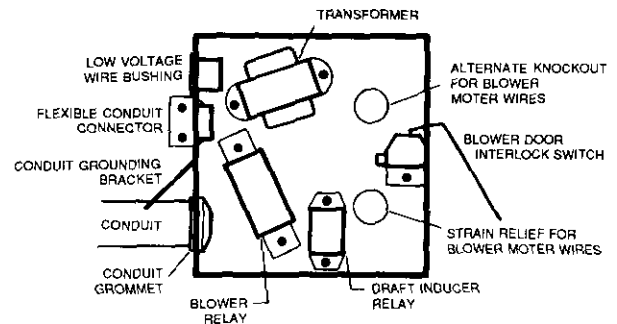
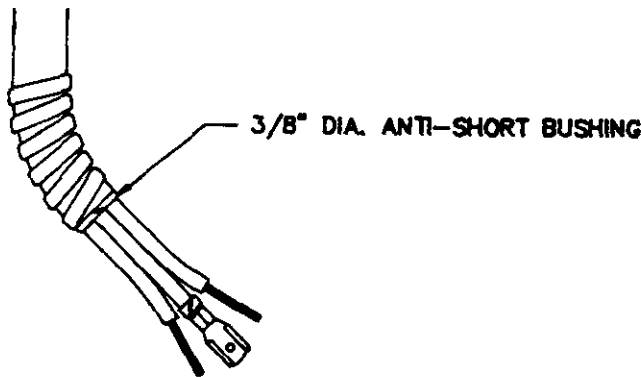
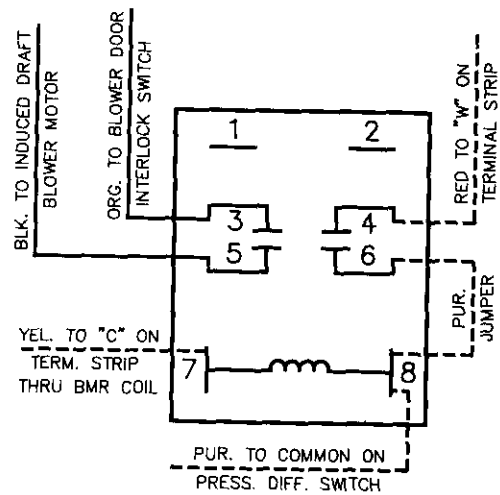
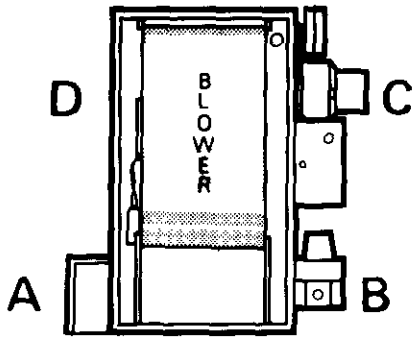

Figure 32 (4-065)
Figure 36 (4-062)
Figure 37 (4-044)
Figure 38 (4-043)
- Line voltage wiring:** See Figure 32 to identify junction box components. Remove blower motor, red or blue wire from spliced fan/limit control brown wire. Remove blower motor black wire from blower relay, terminal "N.O.". Remove blower motor white wire from spliced transformer primary, white wire. Remove fan/limit control, black wire from blower relay, terminal "N.C.". Remove 3/4"-strain relief bushing from back of junction box.
17. Remove junction box alternate knockout in back of junction box. See Figure 32 for location of alternate knockout.
3. Remove junction box cover. Inspect end of flexible conduit from draft inducer to be sure that orange plastic anti-short bushing is still in conduit. See Figure 36. Locate flexible conduit connector, shown in Figure 32.
5. Locate draft inducer relay shown in Figure 32. Using Figure 38 and the wiring diagram enclosed separately, attach black wire from flexible conduit to terminal #5 on draft inducer relay. Attach white wire from flexible conduit to 115-volt common power supply. Attach green wire to green grounding pigtail junction box.
2. Relocating controls and draft inducer from as-shipped position. You may move controls to position "B" and draft inducer and pressure switch to position "C" shown in Figure 38.
3. Remove junction box cover. Inspect flexible conduit end from draft inducer to be sure that orange plastic anti-short bushing is in conduit. See Figure 36. Locate flexible conduit connector shown in Figure 32.
5. See Figure 32 for draft inducer relay location. Follow Figure 37 and furnace wiring diagram enclosed separately. Attach black wire from flexible conduit to terminal #5 on draft inducer relay. Attach white wire from flexible conduit to 115-volt common power supply. Attach green wire to green junction box grounding pigtail.